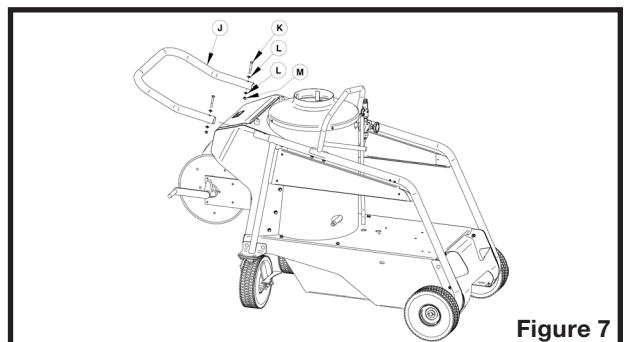

Figure 7
7. Install the handle (J on figure 7) with 5/16" NC x 2 1/4" bolts, 5/16" washers and 5/16" nylon locknuts (K, L and M on figure 7).